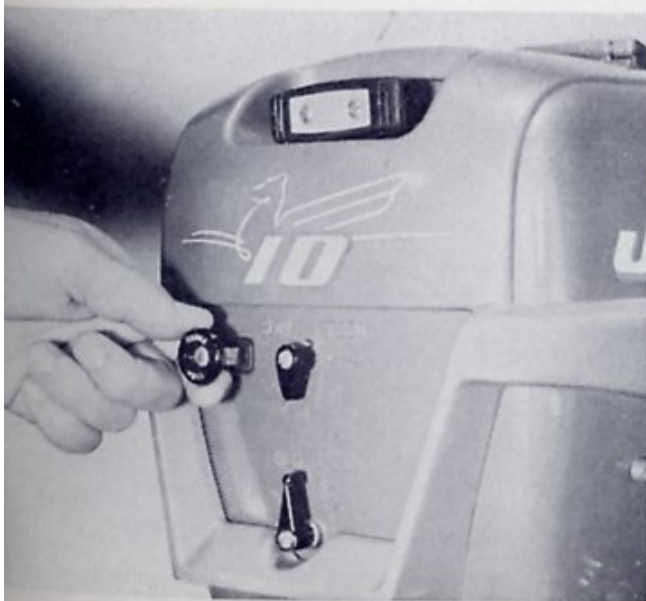

Figure 11
4. Pull choke "out" to extreme limit (Fig. 11) (in temperature below 40° F, turn high speed lever to number one (1) to provide a richer starting fuel mixture.) *Warm motor* (immediately after previous running) choke not ordinarily required. In event motor fails to start on third attempt, pull choke to extreme limit.